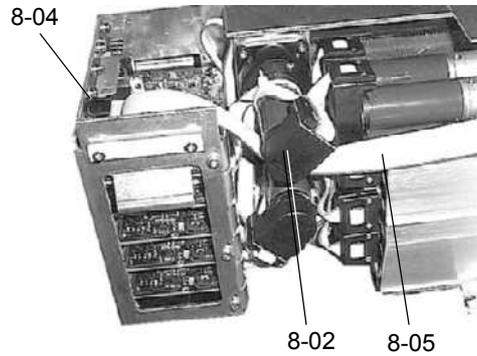

Figure 6-57 Installation of ILID flat cable
Refer to Figure 6-57, 'Installation of ILID flat cable'
- Lead the ILID flat cable (8-05) below the Y-motor (8-02) (see Figure 6-57) to avoid any damages to the cable.